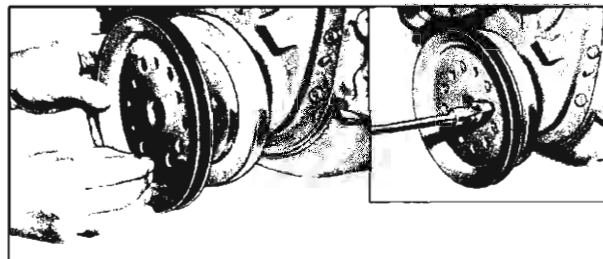

Fig. 74—Remove Crankshaft Pulley
5. Remove harmonic balancer pulley bolts and remove pulley or dual pulley (fig. 74).
4. Install crankshaft pulley on dual pulley (fig. 74).